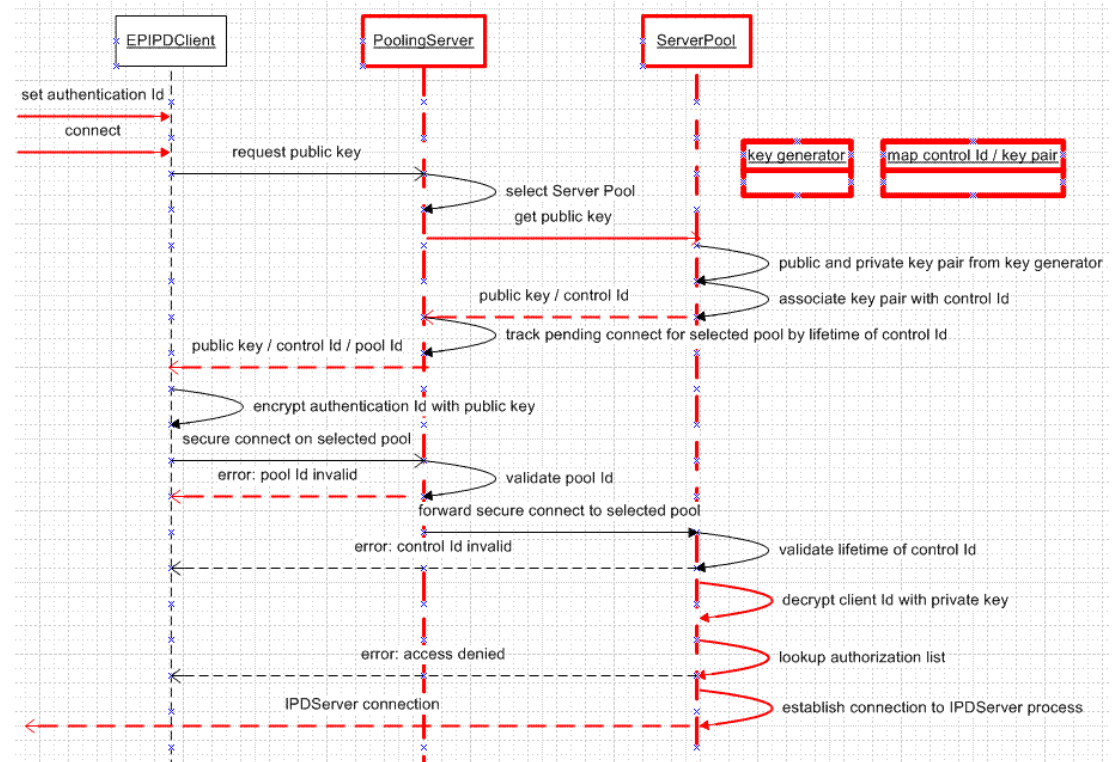

Figure 189: Secure Connection
The authentication is done by the Server Pool, assigning IPDServer processes to the client, the Server Pool must already be selected by the Pooling Server in step (1) and this Server Pool selection must be transferred with the secure connection in step (2). Figure 189 depicts how the secure connection is established.